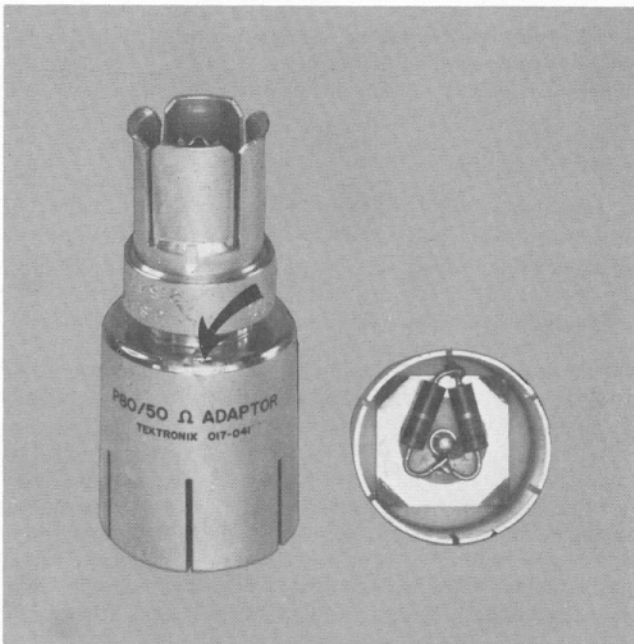

Fig. 6-1. Modified P80/50 Ω Adapter, Part No. 017-041.
The modification of the P80/50 Ω Adapter mentioned in item 6 above consists of adding two 100 Ω 5% $\frac{1}{2}$ watt carbon composition resistors as a 50 Ω Termination. The picture on the left side of Fig. 6-1 shows where a hole was drilled in the adapter, filed clean of chrome, and the termination soldered to ground. The picture on the right side of Fig. 6-1 shows the internal resistor layout and method of soldering them to the center conductor. This modification places a 50 Ω termination as close to the input to the probe as possible, making the adapter satisfactory for proper cable termination.